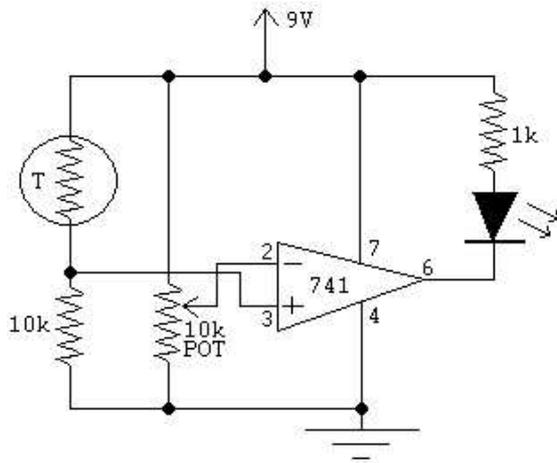

Figure 1: Basic Thermistor sensing circuit, using an op-amp without feedback as a comparator
Consider the circuit in Figure 1. This looks complicated but is really is not.
1. Build the circuit of Figure 1 on your breadboard. To get the LED oriented properly, the longer lead must go to the positive voltage.